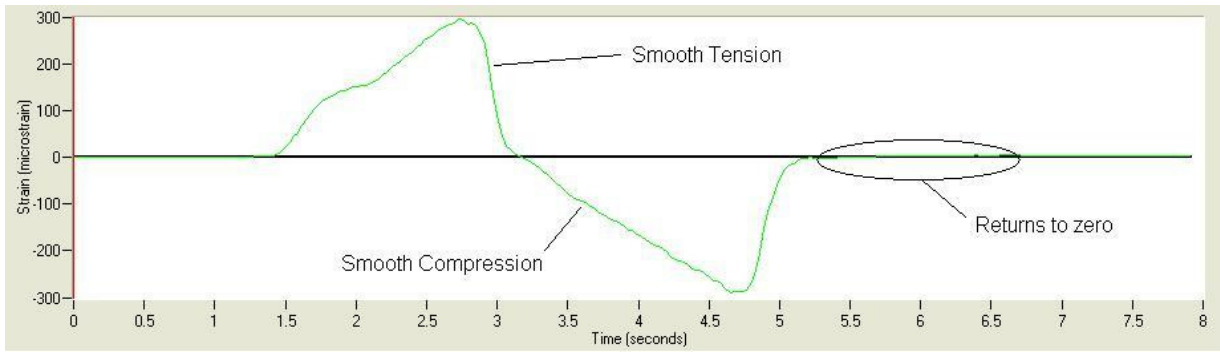

FIGURE 7-2. Proper Connection to Data Acquisition System for Tension and Compression
1. Ensure the Strain Transducer returns a smooth output. Run a test at a sample frequency higher than 30 Hz and apply a smooth tension force (gently pulling one each end) followed by a smooth compression force (gently pushing each end). The output returned should be a tension spike followed by a compression spike and should not appear “stair-steppy”. An example of this output can be seen below in FIGURE 7-2.